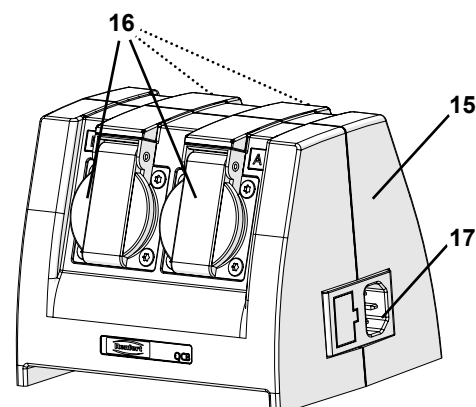

Fig. 5
- ⇒ Insert the supplied power cable (18, Fig. 1) into the power connection at the QCB (17, Fig. 5).
⇒ Connect the electric appliances to the appliance socket connections (16, Fig. 5) on the QCB (A, B, C, D). Observe the allocation of the socket connections – suction channel / pinch valve.